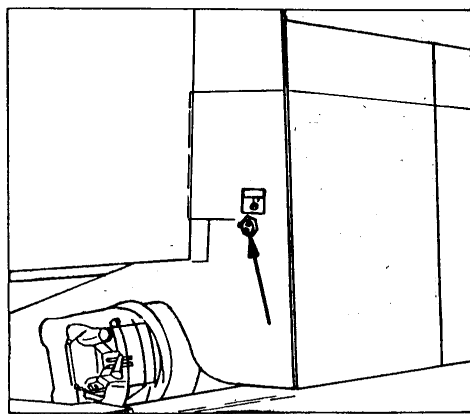

Fig. 4.22. Electric System Master Switch
3. Turn the master electric system switch "ON" (Refer to Fig. 4.22, 4.22.A).
2. Shut down the engine by turning the starting key to the OFF position (Fig. 4.3). Before leaving the machine remove the key and turn off the electric system master switch into OFF position (Fig. 4.22, 4.22.A).